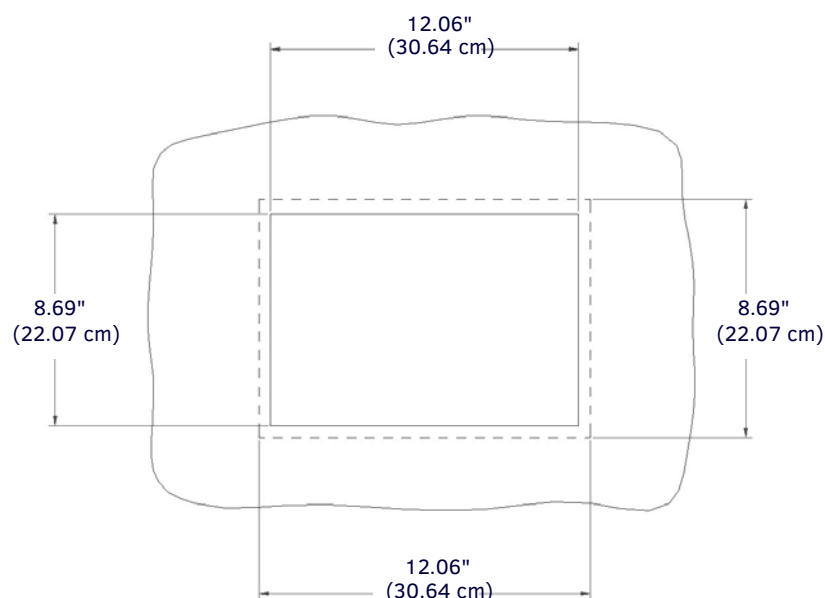

FIG. 14 Recommended cutout for the MVP-WDS-9 plastic back box
1. Cut a hole into the wall or surface intended to hold the back box. The back box is sized 12 1/16 inches (30.64 cm) long and 8 11/16 inches (22.07 cm) high, so the hole should be at least 1/4" (6.4mm) smaller in each dimension (FIG. 14). Use the included MVP-WDS-9 Wall Docking Station template (68-5967-01) as an aid for hole placement and measurement.